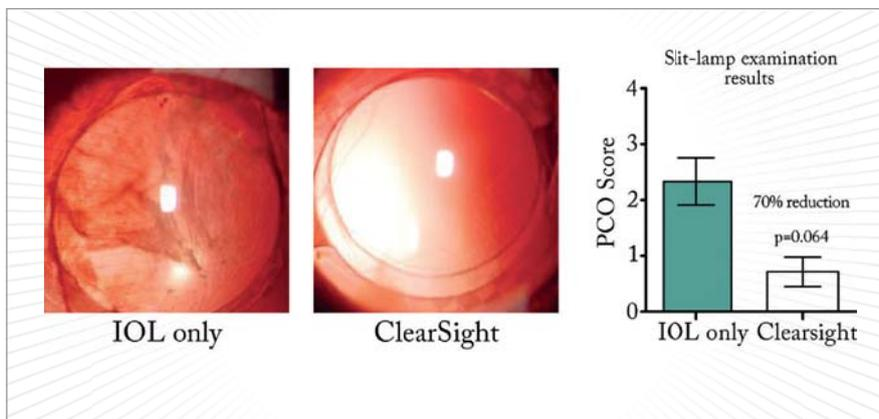

Figure 4. ClearSight IOL prototypes (right) significantly reduced PCO formation by 70 percent in a rabbit PCO model compared with standard IOLs (left).
Next, the ClearSight IOL prototype was compared with a standard IOL in a rabbit model of PCO formation (2). We observed considerable PCO with the standard IOL, and little to none with the ClearSight IOL – the new design reduced PCO scores by 70 percent in clinical examinations compared with the standard IOL design (Figure 4). Ophthalmologists who were blinded to the treatment group also evaluated slit-lamp exam images and confirmed that none of the ClearSight IOL prototype eyes would require YAG laser capsulotomy treatment. Clearly, the next step is for a clinical evaluation of the ClearSight IOL.